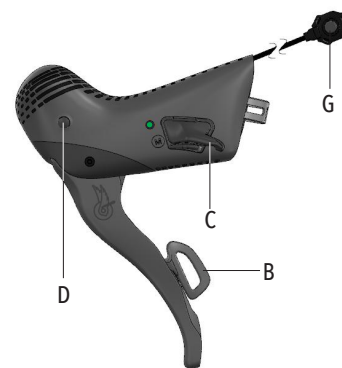

Fig.10
- By pressing the Thumb shifter, the rear derailleur shifts down (C - Fig.10).
- By pressing the Shift lever, the rear derailleur shifts up (B - Fig.10).
- By pressing on the Smart button, the rear derailleur shifts down (D - Fig.10).
- By pressing on the satellite button the rear derailleur shifts down (G - Fig.10).